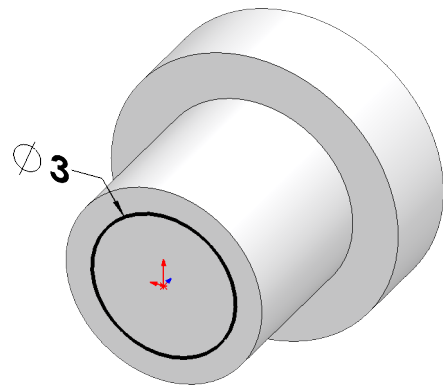
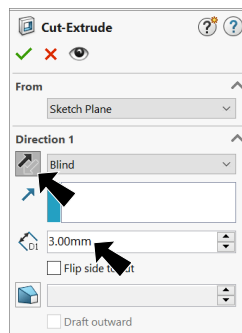

Fig. 8
Fig. 9
Step 2. Rotate view to left side, **Fig. 8**. To rotate view, **Shift-Ctrl** click the **Y axis of the Reference Triad**  (bottom left corner of graphics area).
Step 3. Click **Circle**  (S) on the Sketch toolbar.
Step 4. Sketch circle at **Origin** , **Fig. 8**.
Step 5. Click **Smart Dimension**  (S) on the Sketch toolbar.
Step 6. Dimension **diameter 3**, **Fig. 9**.